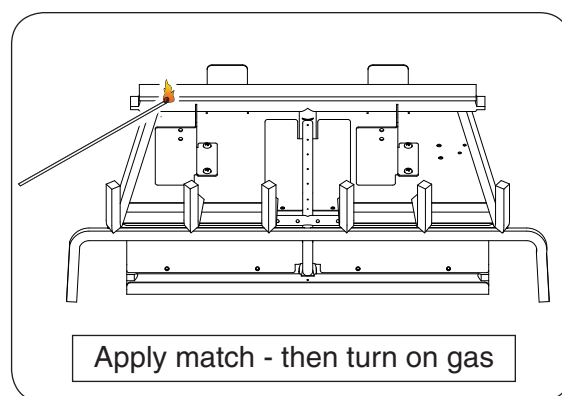

Fig. 15-1
3. Lay a lighted match on the center of the top burner (**do not hold the match in your hand**) or use a lighted long-stem match/long-necked butane lighter (Fig. 15-1).